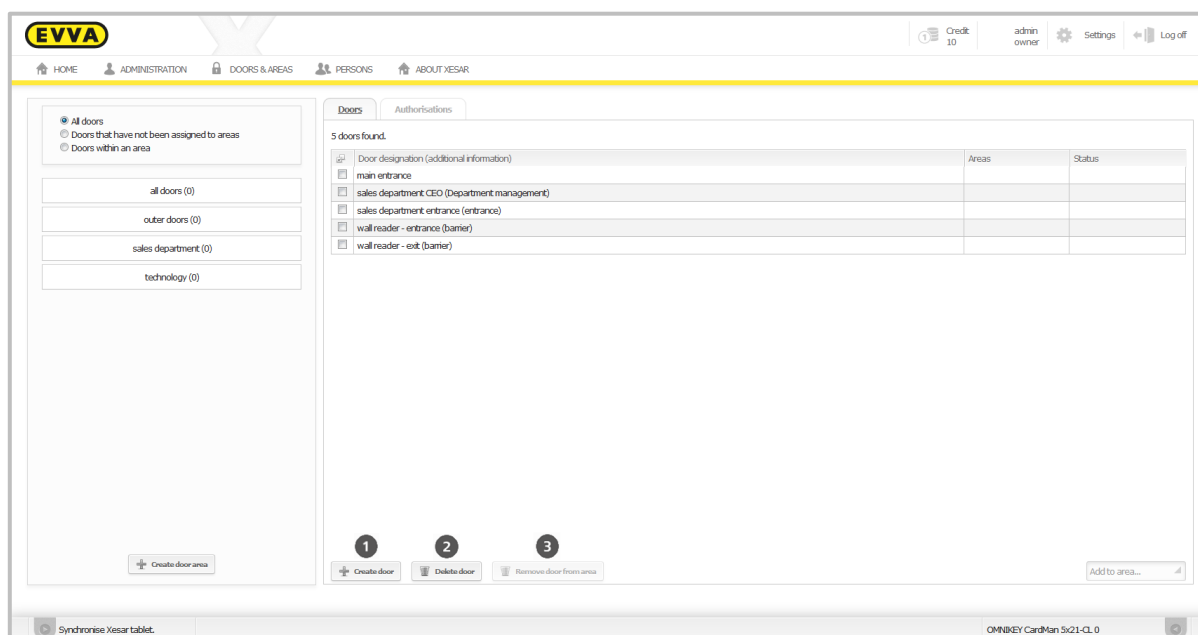

Figure 68: Managing doors
- Click the **Create door** field ❶ and proceed as described in Section (**Creating doors**, Figure 68: Managing doors).
You can also delete doors in this menu item (Figure 68: Managing doors).
Proceed as follows to delete doors from an area (Figure 68: Managing doors):